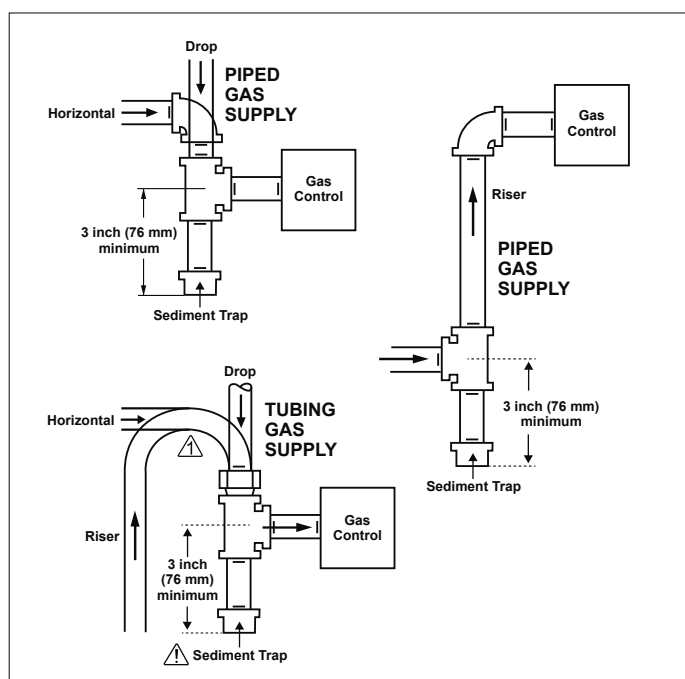

Figure 8: Sediment Trap (where required)
2. Install the sediment trap or filter (where required) in the gas supply line to prevent contamination of the control (see figure 8, page 5).